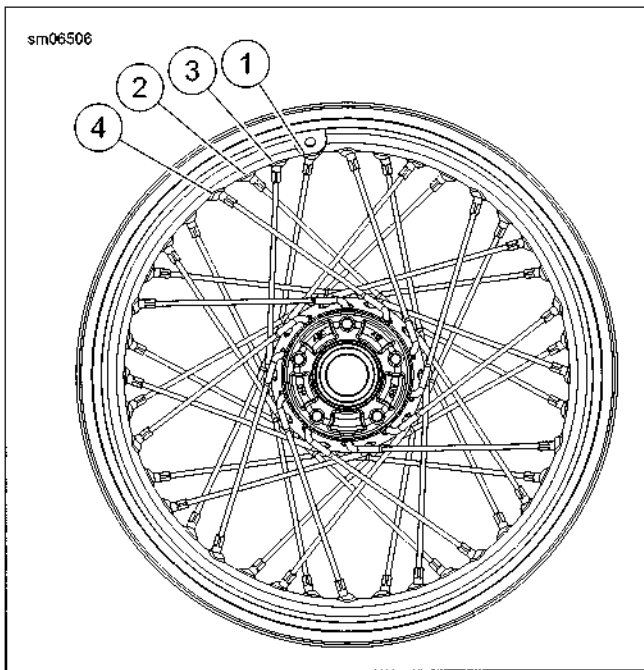

Figure 2-27. Side Valve Rim
- a. **Rim with side valve hole:** See Figure 2-27. Start at the valve stem hole (1).